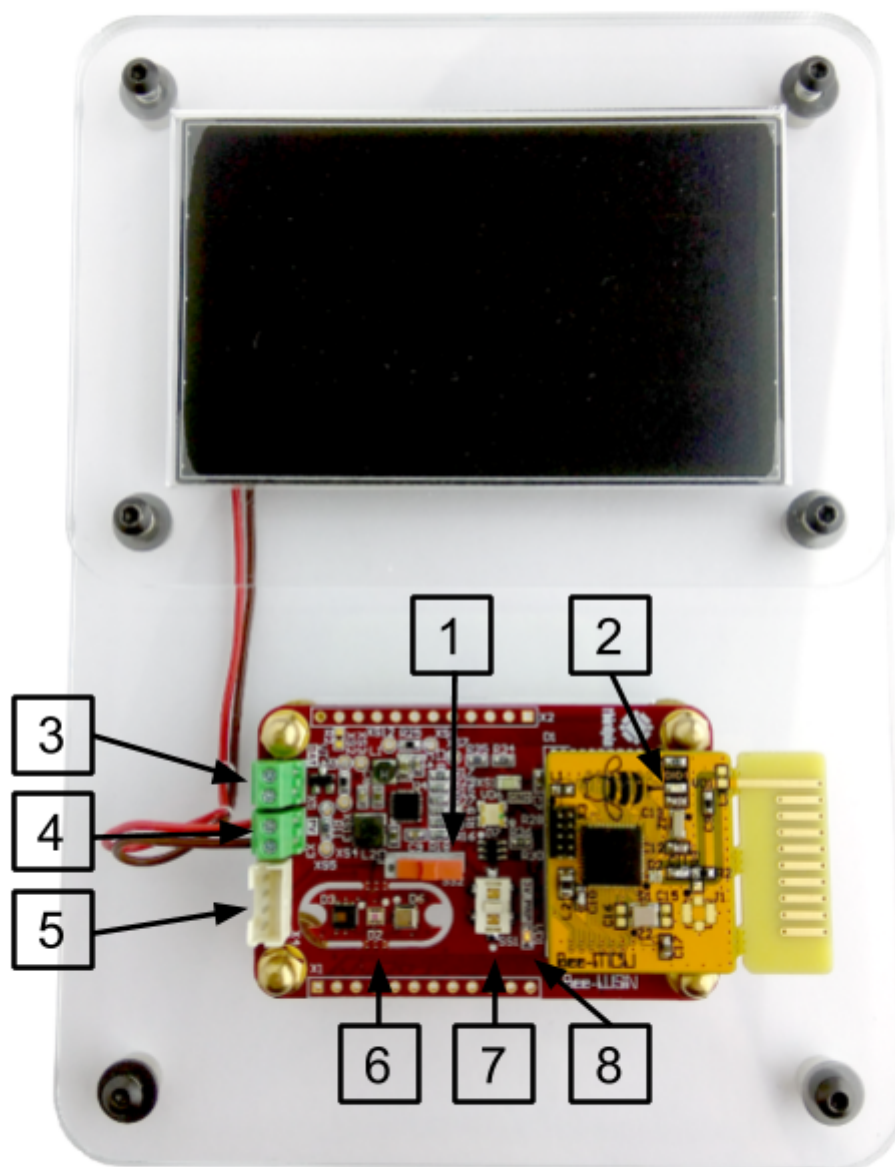

Fig.2 Bee node
- slide the SS2 switch to the right (Fig.2 - 1). The 3V_PRP LED must light up and DIO1 LED on Bee-MCU board must start blinking.
To switch between slow/fast update rate push the SS1 switch (Fig.2 - 7) on Bee-WSN module. Fast update mode affects the USB virtual serial port only, E-Ink display update rate is constant.